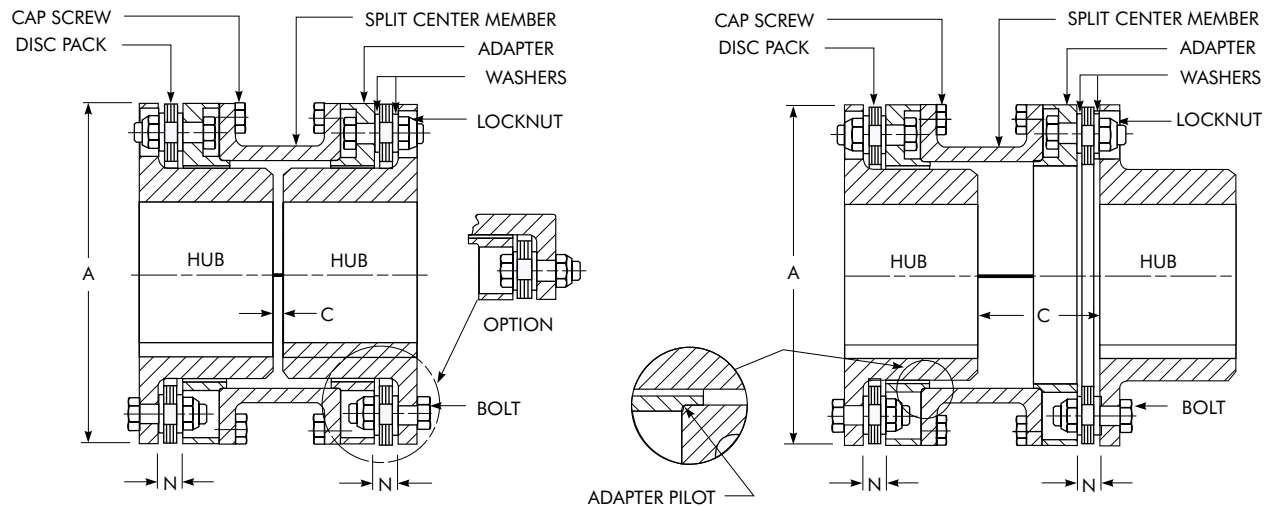
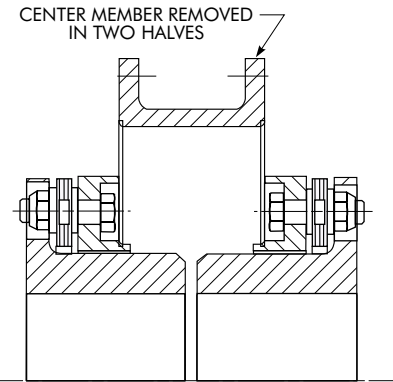

Figure 1
Figure 4
As a guide, maximum and minimum values for dimension “N” are given. These dimensions are suggested for initial installation. Additional capacity is available to compensate for thermal and structural movement. Maximum axial capacity values for these couplings are also given. See Table 1 and Figure 1.
NOTE: If there is not enough room axially behind the hub, bolts can be installed from the opposite direction. See Figure 1 option.
Add a washer to each bolt. **The radius side of the washer should always be against the disc pack.** Now position the disc pack/adaptor sub assembly onto the bolts. See Figure 1. Add the remaining radius washers making sure all parts pilot on the body ground part of the bolt. Now add the locknuts and slightly tighten the locknuts.
- E. Install the two split center member halves. Position them between the adapters making sure the bolt holes line up with the tapped holes in the adapter and the number stamped on each half of the flange O.D. are the same and line up with each other. If the coupling has been balanced, make sure the match marks all line up. See Figure 1 and Figure 4.
- A. Remove the cap screws and then remove the two center member halves from the assembly. See Figure 4.
NOTE: If bolts need to be replaced and there is not enough room axially behind the hub, new bolts can be installed from the opposite direction. See Figure 1 option.
Add a washer to each bolt. The radius side of the washer should always be against the disc pack. Now position the disc pack onto the bolts. See Figure 1. Add the remaining radius washers making sure all parts pilot on the body ground part of the bolt. Now add the locknuts. Do not tighten at this time.
- F. Slide the adapter back into position. Install the bolts through the adapter bolt holes. Add a washer to each bolt. The radius side of the washer should always be against the disc pack. Now position this assembly so that the bolts go through the disc pack, making sure the match marks, when used, line up. See Figure 1. Add the remaining radius washers making sure all parts pilot on the body ground part of the bolt. Now add the locknuts and slightly tighten the locknuts.
- I. Install the two split center member halves. Position them between the adapters making sure the bolt holes line up with the tapped holes in the adapter, and the numbers stamped on each half of the flange O.D. are the same and line up with each other. If the coupling has been balanced, make sure the match marks all line up. See Figures 1 and 4.